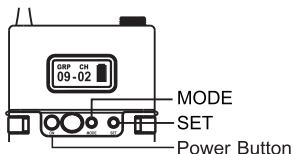

Fig. 6
- (A) Press and hold the power button for two seconds to power on or power off the device. Fig. 6